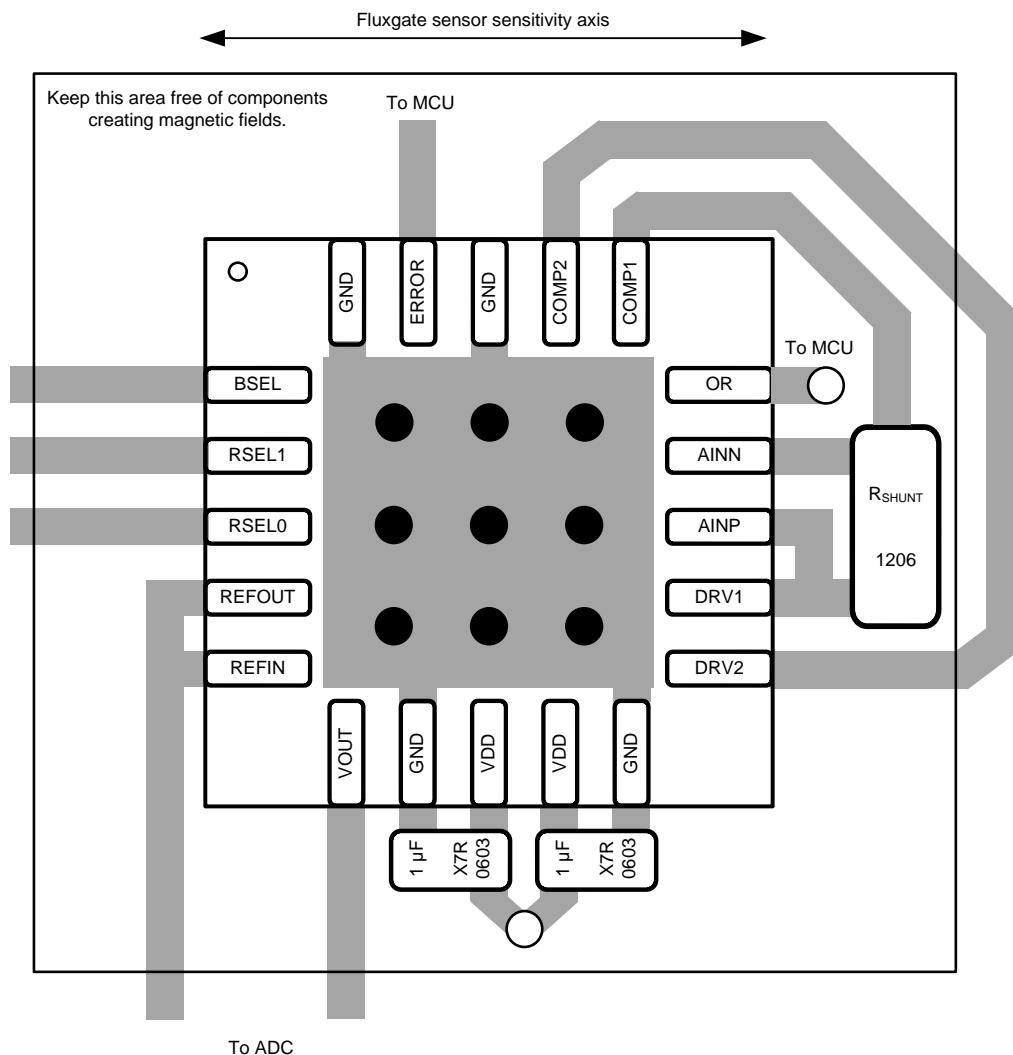

图 76. Generic Layout Example (Top View)
Decouple both VDD pins of the DRV425 with 1-μF, X7R-type ceramic capacitors to the adjacent GND pin as illustrated in 图 76. For best performance, place both decoupling capacitors as close to the related power-supply pins as possible. Connect these capacitors to the power-supply source in a way that allows the current to flow through the pads of the decoupling capacitors.
- Route currents parallel to the fluxgate sensor sensitivity axis as illustrated in Figure 76. As a result, magnetic fields are perpendicular to the fluxgate sensitivity and have limited affect.
Figure 76 illustrates a generic layout example that highlights the placement of components that are critical to the DRV425 performance. For specific layout examples, see the *DRV425EVM Users Guide*, SLOU410.